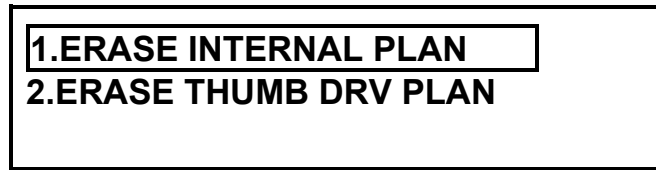

Figure 89.0 Erase Test Plan With Thumb Drive Menu
- b. **Origin:** This menu is displayed after the operator selects 1 (“Erase Internal Tp”) from the “Erase Test Plan With Thumb Drive Menu” (Figure 89.0).